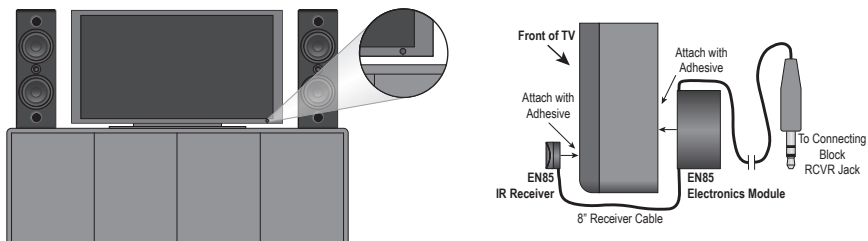

Figure 1 - Surface Mount - Flat Panel TV
2. With the IR Receiver 8" Receiver Cable directed toward the edge of the TV, using one of the round adhesive strips, carefully attach the IR Receiver to the TV frame. **Figure 1**